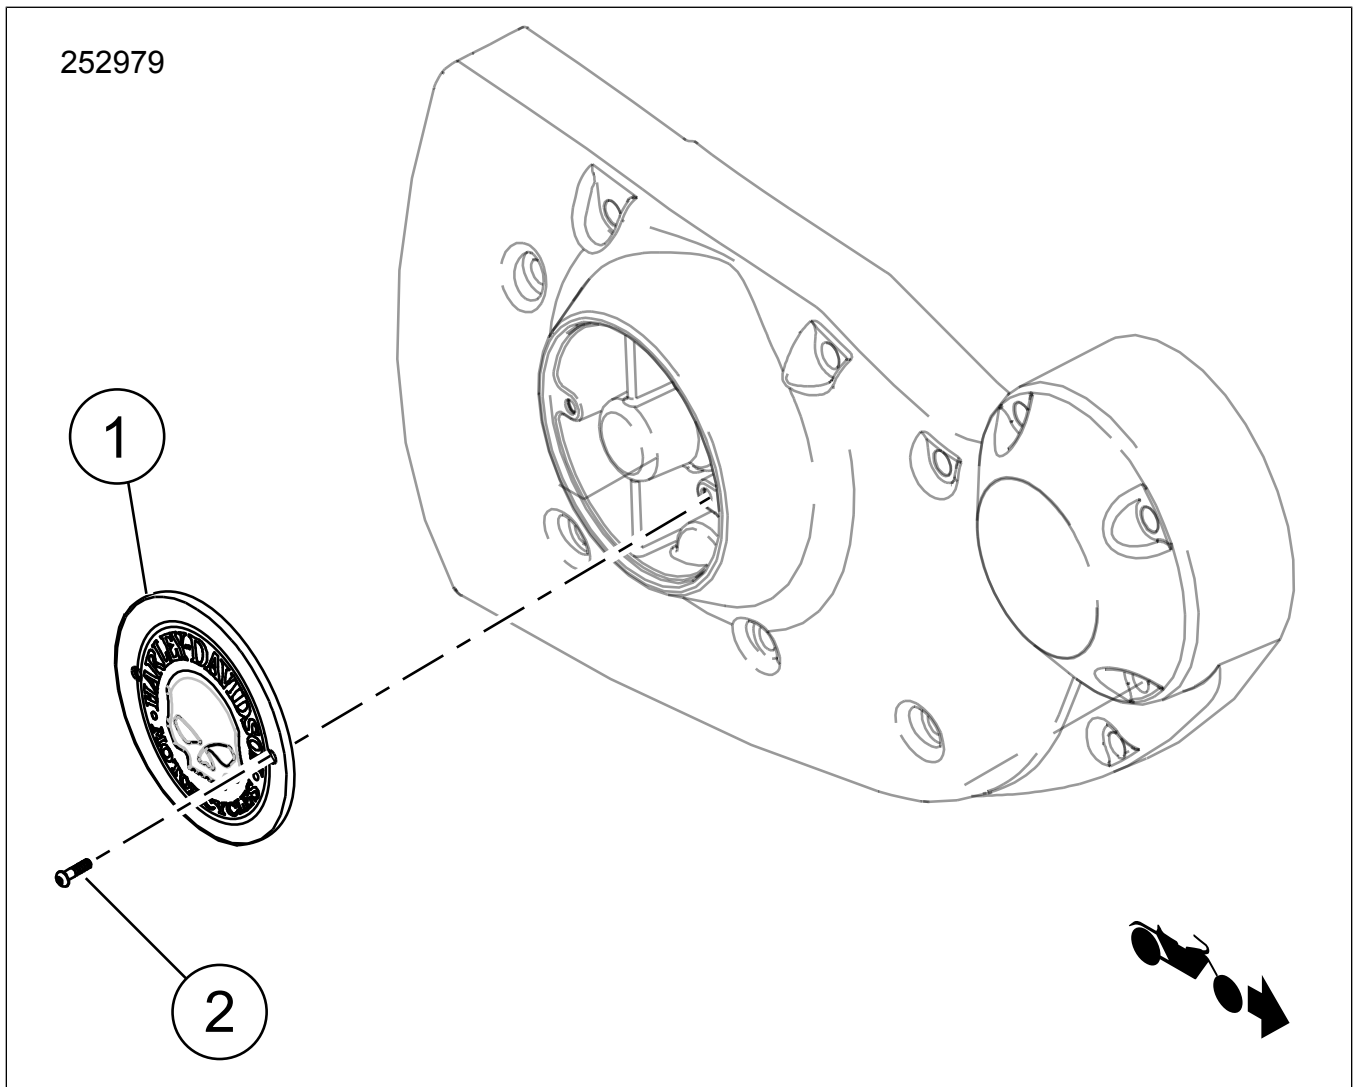

Figure 1. Kit Contents: Timer Cover Components
2. See Figure 1. Remove and discard the OE (Original Equipment) screws and timer cover.